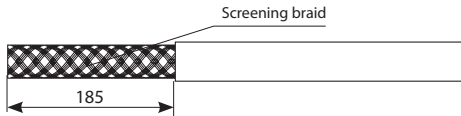

Figure 2
5.1.2. Cut off and remove the outer jacket from one end segment of the heating tape (see Figure 2).